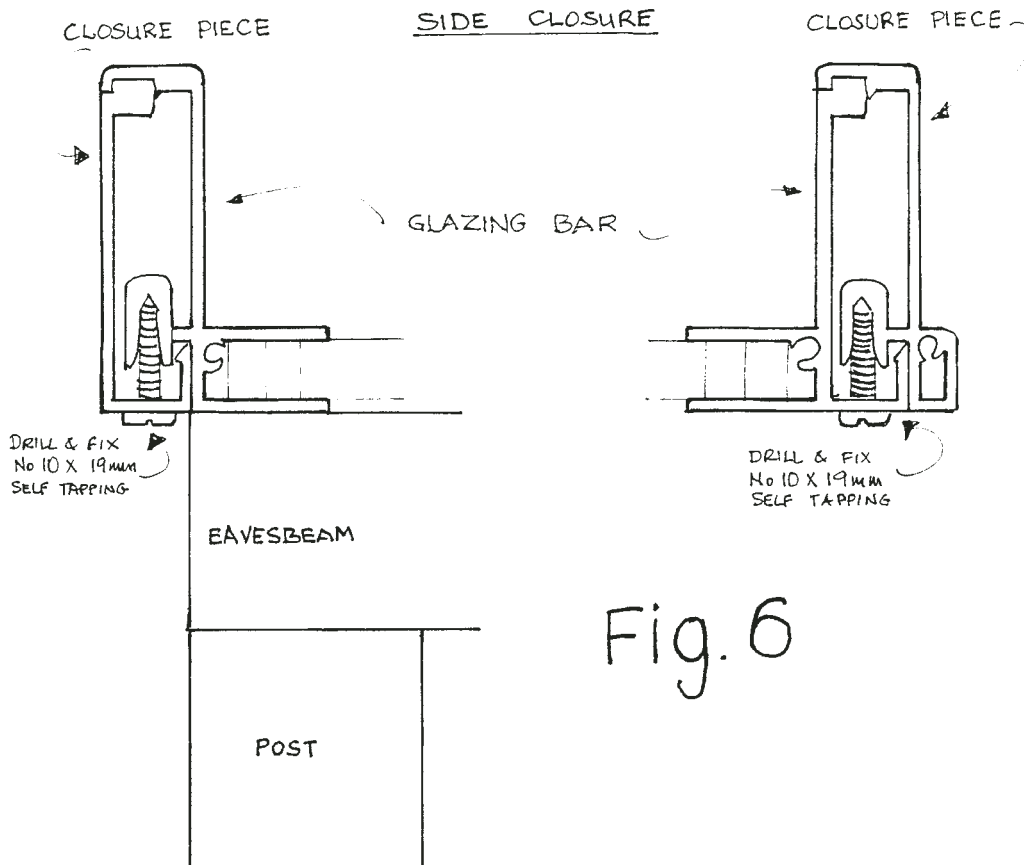

Fig. 6
**IMPORTANT NOTE:** Before installing your glazing panels check that the polycarbonate sheets are correctly fitted into the glazing bar. It is possible that the sheet could have been forced too far into the bar during delivery. When installed the distance the centre of each bar should be 610mm. Check these dimensions before fixing the panels. (see Fig. 6)